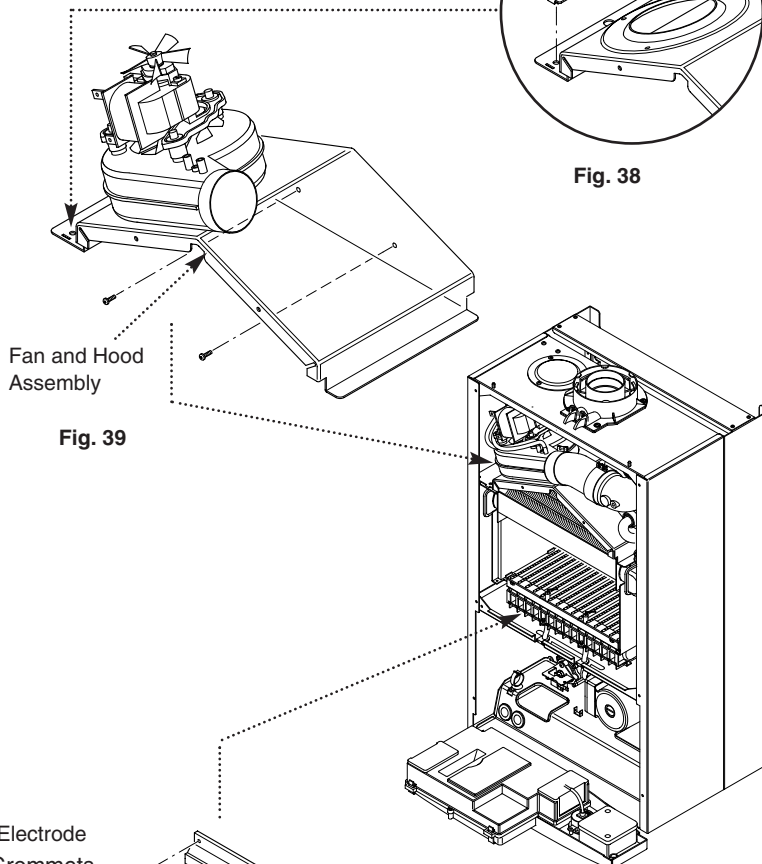

Fig. 39
13. Undo the screws securing the fan and hood to the appliance back panel. Draw the assembly forwards (Fig. 39).